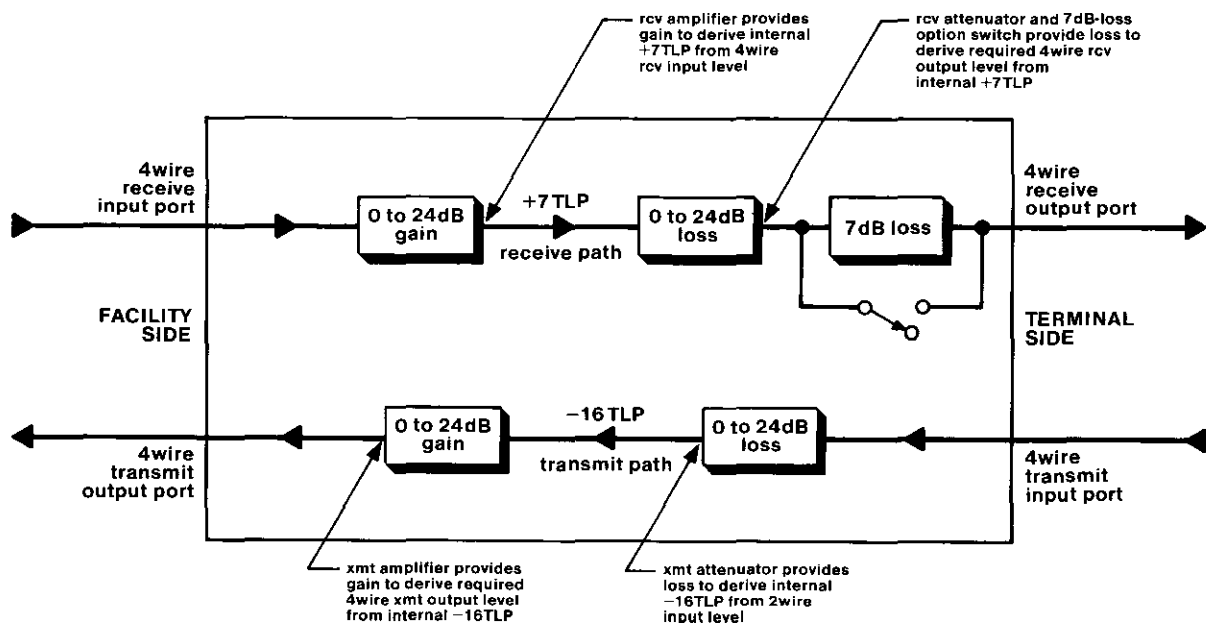

figure 2. Level coordination in 6962/A
2.04 Prescription-set transmit and receive amplifiers on the facility side of the 6962/A allow each module to interface the SF signaling facility directly, i.e., without a separate facility-side line amplifier. The module's amplifiers, in conjunction with the prescription-set transmit and receive attenuators on the module's terminal side, provide for full coordination between facility-side and terminal-side levels (see figure 2). In the receive channel, the facility-side amplifier is set to provide the gain necessary to derive a +7 transmission level point